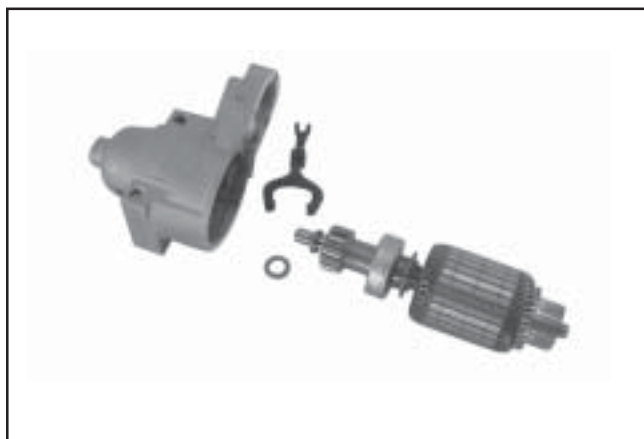

Figure 8-52. Armature and Lever Removed.
8. Take out the drive lever and pull the armature out of the drive end cap. See Figure 8-52.
9. Remove the thrust washer from the armature shaft. See Figure 8-52.